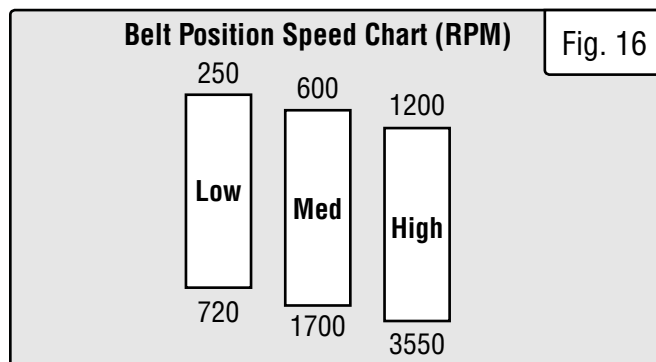

Fig. 16
6. Adjust the belt's position on both the upper and lower drive pulleys to the desired speed range setting according to Fig. 16. Make sure the belt is vertically aligned on the upper and lower pulleys.